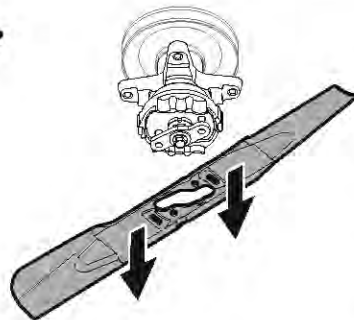

Figure 47
5. When the hole in the center of the blade aligns with the tractor blade retainer, carefully lower the blade. See Figure 47.